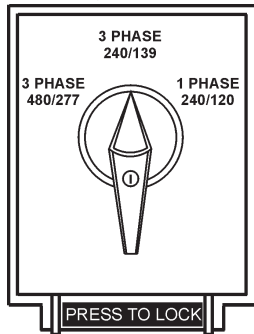

Figure 22. Voltage Selector Switch 240/139V Three-Phase Position
1. Place the voltage selector switch in the 3Ø 240/139 position as shown in Figure 22.